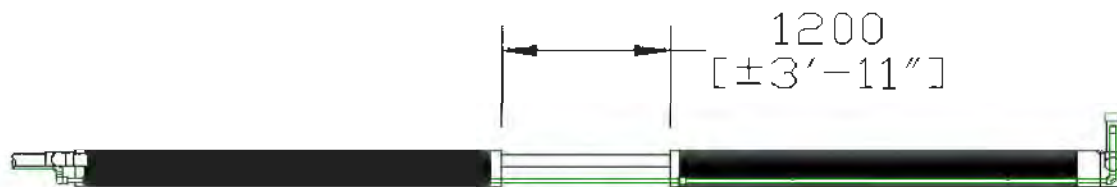

Figure 31. Pipe separation for longer length
3. Add spacings between some of – or all – the AES pipes (see Figure 31);